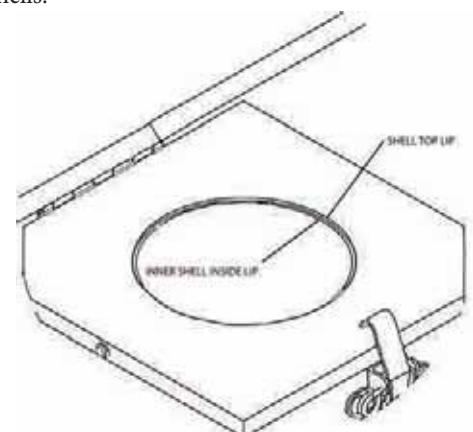

FIGURE 7
2. Install the outer shell and top lid assembly. Be sure the inner shell is aligned inside the shell top hole (tabs on Type 15). See Figure 7 below.
2. Install the shell top and lid assembly. To align the part, start on the hinge side and work around the perimeter, pushing down over the painted outer shell. Be sure the inner shell is aligned inside the shell top hole (tabs on Type 15). See Figure 7.